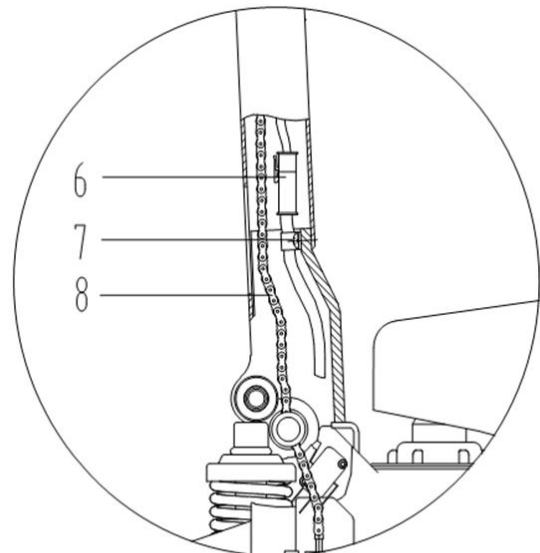

Figure 4
4. Refer to Figure 4: Pull the handle into a horizontal position and remove the locking pin (part #9). Save this pin for use when performing maintenance or repairs. Connect the wires of the handle assembly with the wire connectors (part #6) in the pump body